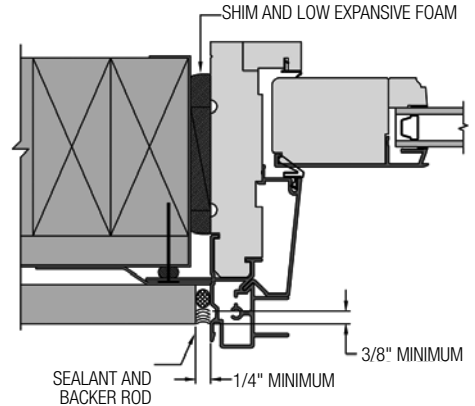
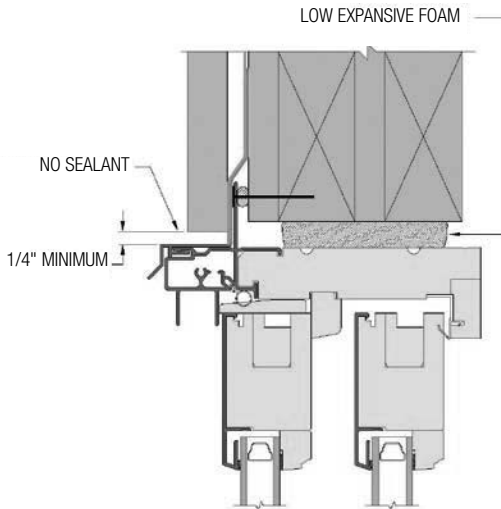

FIG. 23: SIDE JAMB
FIG. 24: SLIDING HEAD JAMB
- A) After siding or wall exterior is complete, apply backer rod and sealant between the door frame and siding material on both sides. Sealant bead must extend to back of accessory groove (3/8" Min.) (Fig. 23) **Do not add sealant at the head.** (Fig. 24 & 25)